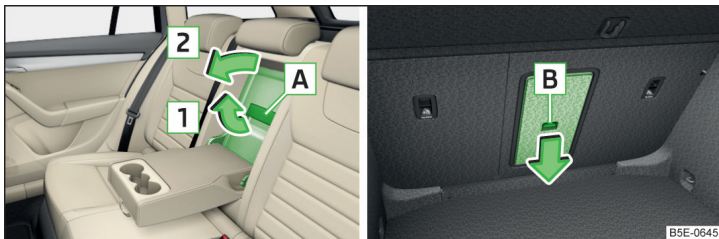

Fig. 112 Open lid: from the passenger compartment / from the luggage compartment
- ▶ Pull handle **A** in the direction of arrow **1** and fold down the cover in the direction of arrow **2** » Fig. 112.
- ▶ Fold the rear armrest and the cover in the seat backrest downwards » Fig. 112 on page 97.